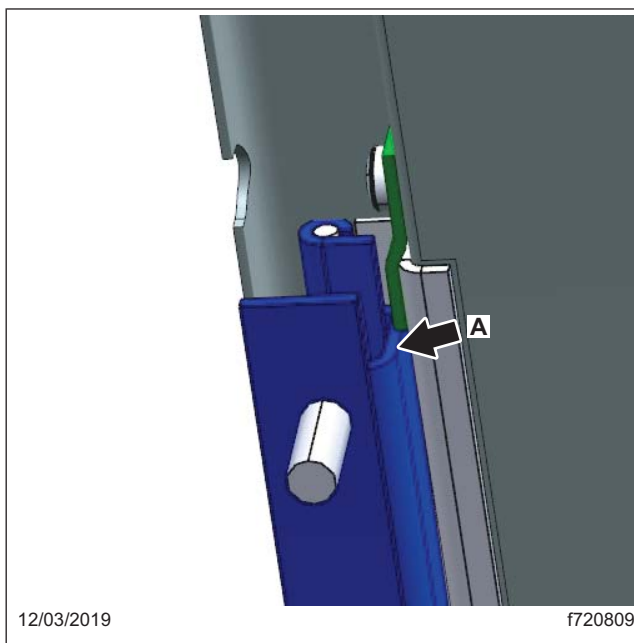

Fig. 3, Door Hinge Trim Location
6. Mark out the areas of the door hinge that will need to be trimmed to allow clearance for the new bracket. See Fig. 3, ref. **A**.
7. Trim the door hinge as shown in Fig. 3. Trimming past the bend in the hinge to allow full range of motion.